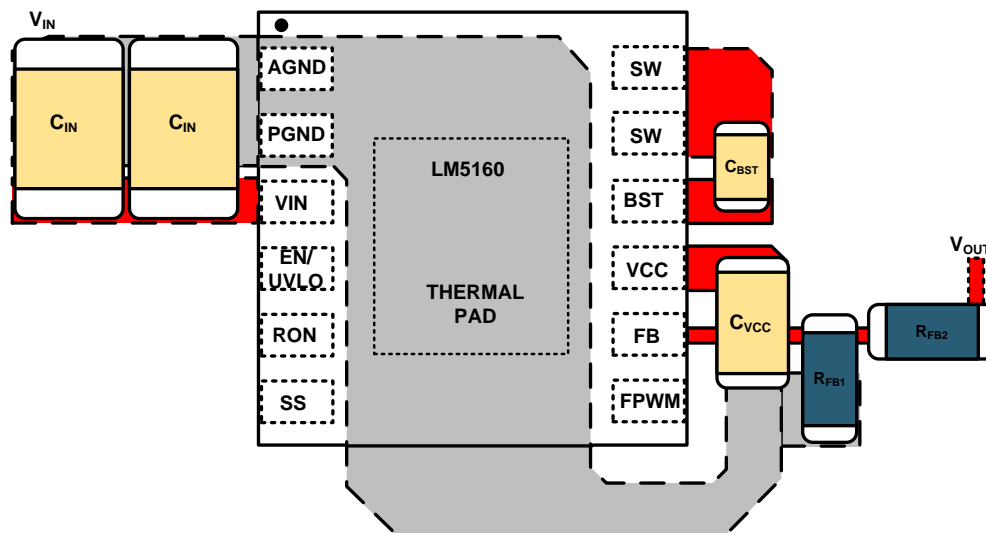

Figure 36. Placement of Bypass Capacitors
- C_{IN} : The loop consisting of input capacitor (C_{IN}), VIN pin, and PGND pin carries the switching current. Therefore, in both the LM5160 and the LM5160A, the input capacitor should be placed close to the IC, directly across VIN and PGND pins, and the connections to these two pins should be direct to minimize the loop area. In general it is not possible to place all of input capacitances near the IC. A good layout practice includes placing the bulk capacitor as close as possible to the VIN pin (see Figure 36). When using the LM5160-Q1 HTSSOP-14 package, a bypass capacitor measuring $\sim 0.1 \mu\text{F}$ should be placed directly across VIN and PGND (pin 3 and 2), as close as possible to the IC while complying with all layout design rules.
- C_{VCC} and C_{BST} : The VCC and bootstrap (BST) bypass capacitors supply switching currents to the high and low side gate drivers. These two capacitors should also be placed as close to the IC as possible, and the connecting trace length and loop area should be minimized (see Figure 36).